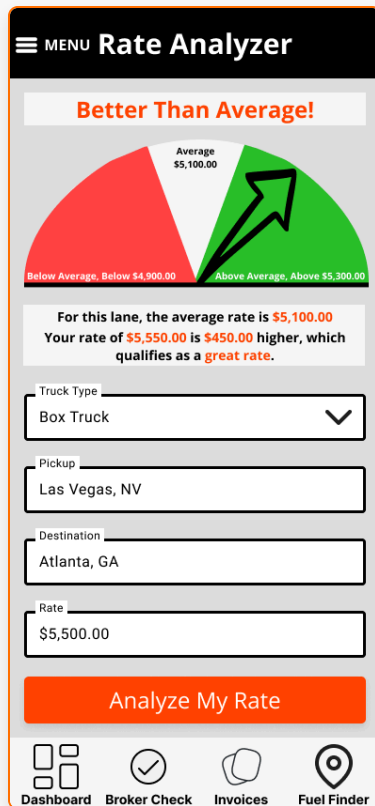
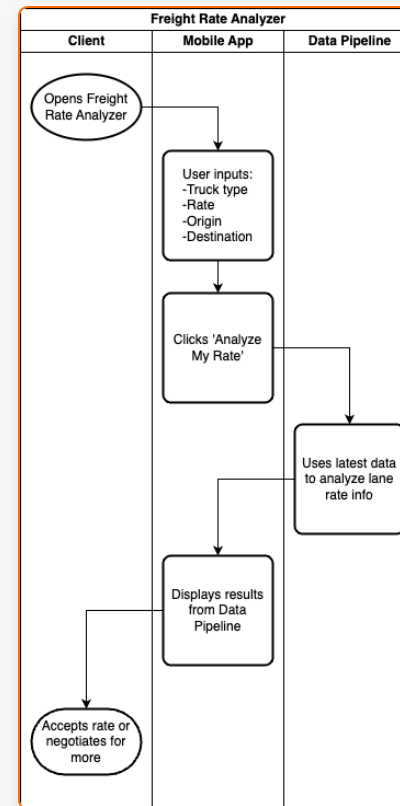

Fig. 13: UI Mockup
Fig. 14: Workflow Diagram
- **Discovery & Design:** Weekly meetings aligned teams on scope, UI/UX design (see **Fig. 13** and **Fig. 14**), and testing timelines. While the data pipeline was staged, engineering kept the momentum by developing animations and refining interactions based on client feedback.